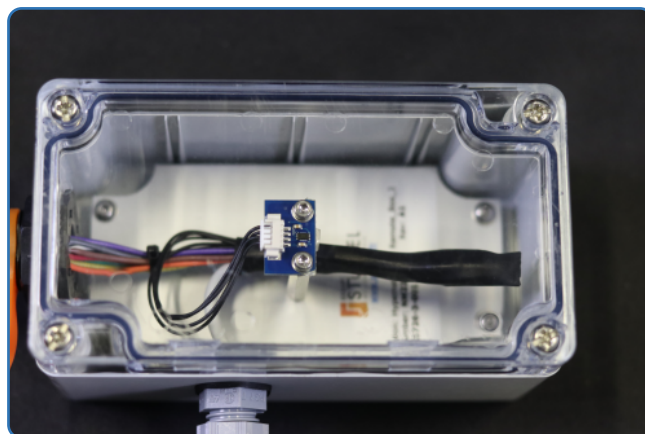

Figure 10: Placement of the Light Sensor
4. Fix it and plug it in the Studiel ancillary box (see figure 10)